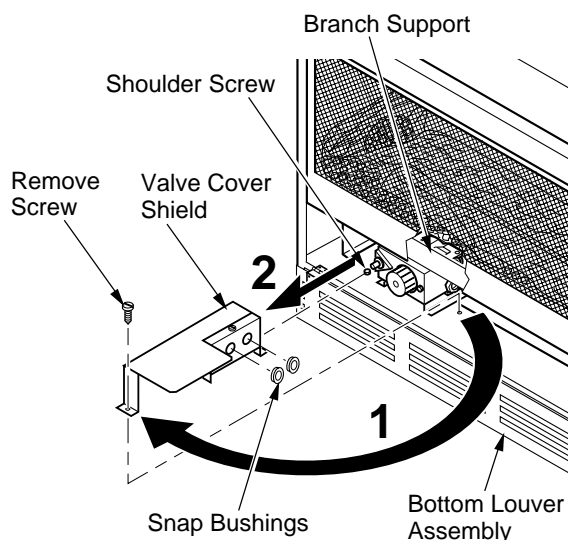

Figure 17 - Removing Valve Cover Shield
1. Open bottom louver assembly by swinging the assembly down (see Figure 17).
2. Using short Phillips screwdriver, remove the screw under the center of the branch support. Rotate valve cover shield clockwise and slide out. **IMPORTANT:** Do not remove shoulder screw on the left side of valve cover shield. Slide the valve cover shield off of the shoulder screw (see Figure 17).